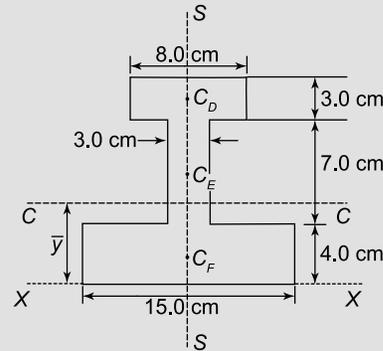

Figure 8.32
**Problem 19.** (a) Determine the second moment of area and the radius of gyration about axis  $XX$  for the I-section shown in Figure 8.32.
(b) The centroid of the I-section will lie on the axis of symmetry, shown as SS in Figure 8.32. Using a tabular approach: